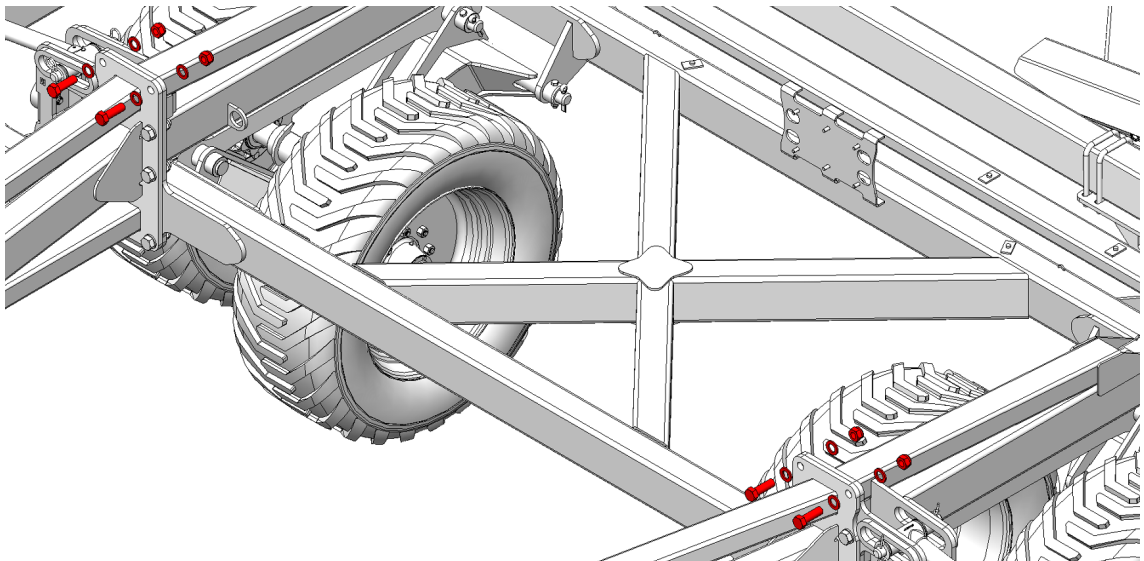

Figure 5 – Discard Fasteners
9. Position 46 Center Frame Brace on Center Frame on the backside of the connection to the Front A-Frame. Confirm hole alignment prior to installing fasteners. It may be necessary to align bolt holes using pry bar or ratchet strap. Refer Figure 5.